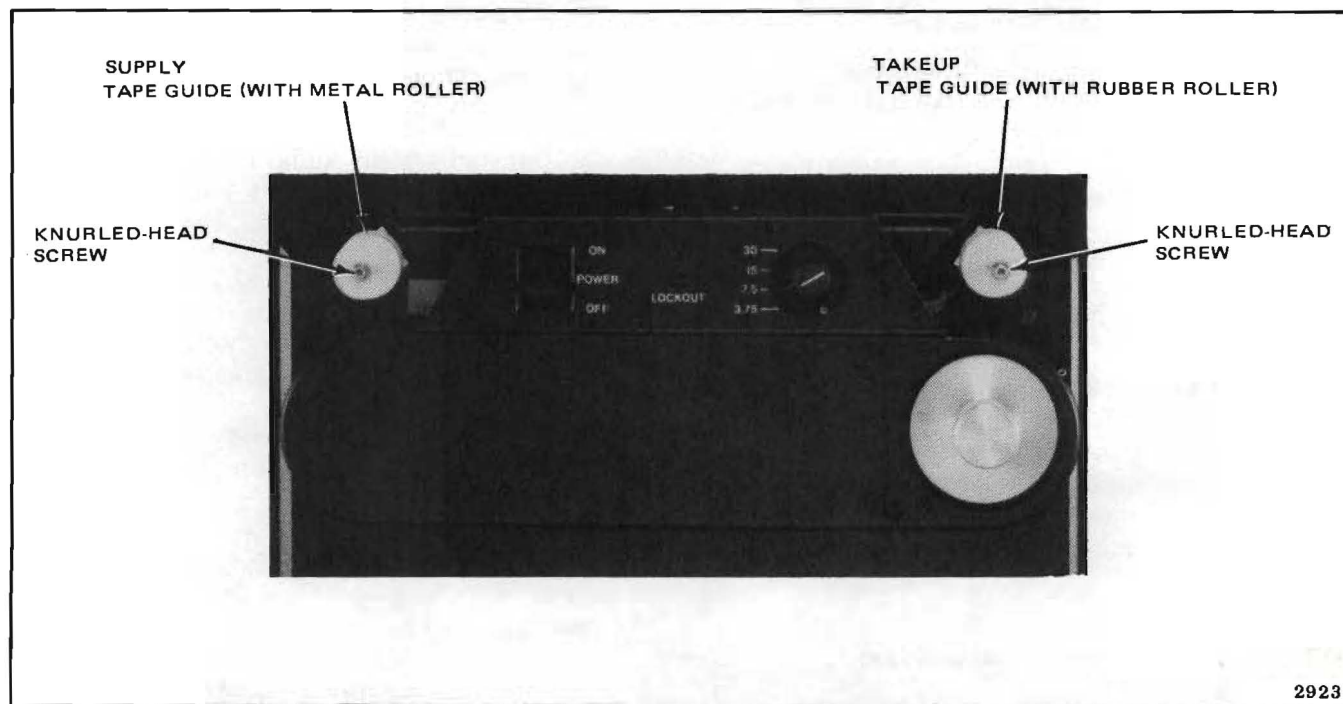

Figure 5-3. Tape Guide Securing Screws
1. Remove tape guide by unscrewing the captive knurled-head screw (Figure 5-3) that secures tape guide to the constant tension arm.